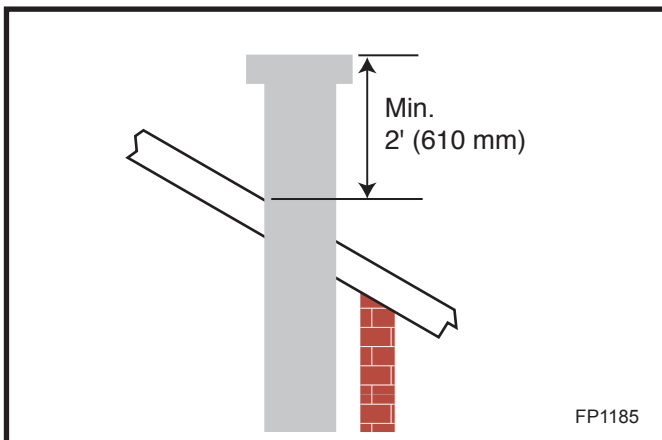

Fig. 37 Minimum termination to roof clearance.
10. Add additional vent lengths for proper height. (Fig 37)